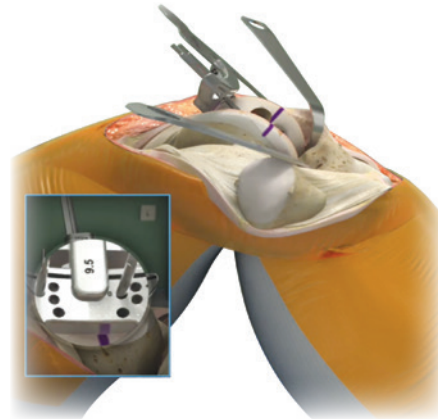

Figure 5
8. By sliding the Resection Check Guide (angel wing) into the slot of the Universal Cutting Block assess the bone resection level before performing the resection. The Universal Cutting Block pinned through the “0” holes will resect 9.5mm from the prominent condyle of the femur (Figure 5).